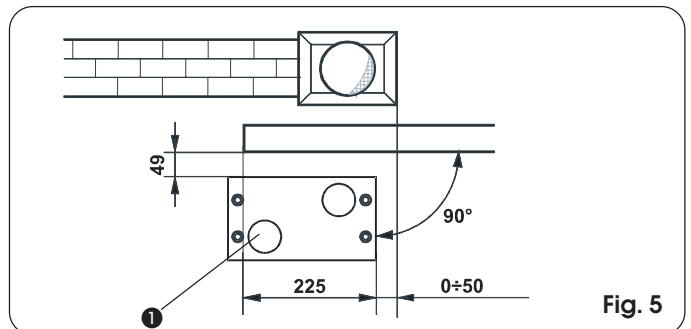
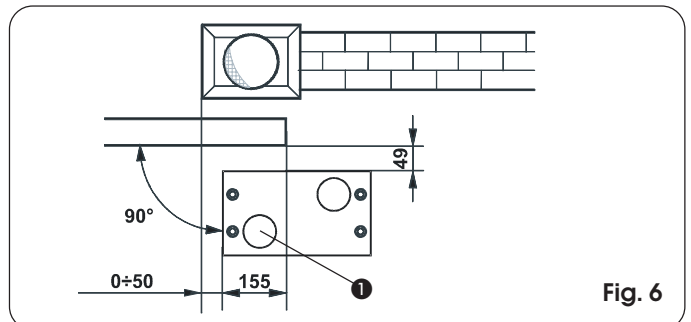

Fig. 5
Fig. 6
- 2) The foundation plate must be located as shown in Fig. 5 (right closing) or Fig.6 (left closing) to ensure correct meshing between rack and pinion.